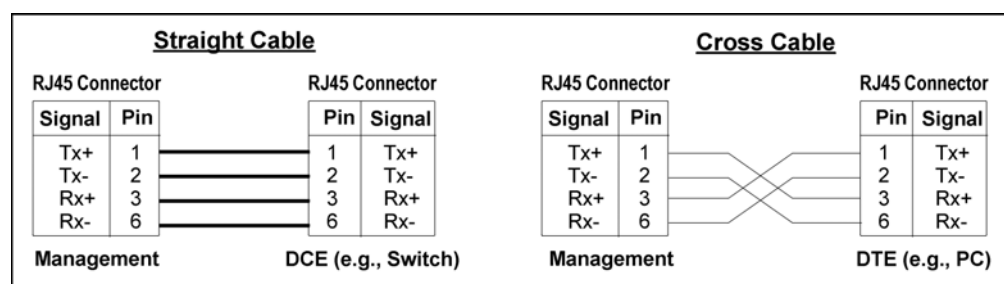

Figure 1: Straight and cross cable wiring
- Category 5 *straight* cable, as shown in Figure 1 below. Not longer than 100 m (328 ft) if the NetLight is to be connected to the SNMP NMS via a DCE, e.g., a switch.
- Category 5 *cross* cable, as shown in Figure 1 below. Not longer than 100 m (328 ft) if the NetLight is to be connected to the SNMP NMS directly. The SNMP NMS, e.g., a PC, is a DTE.